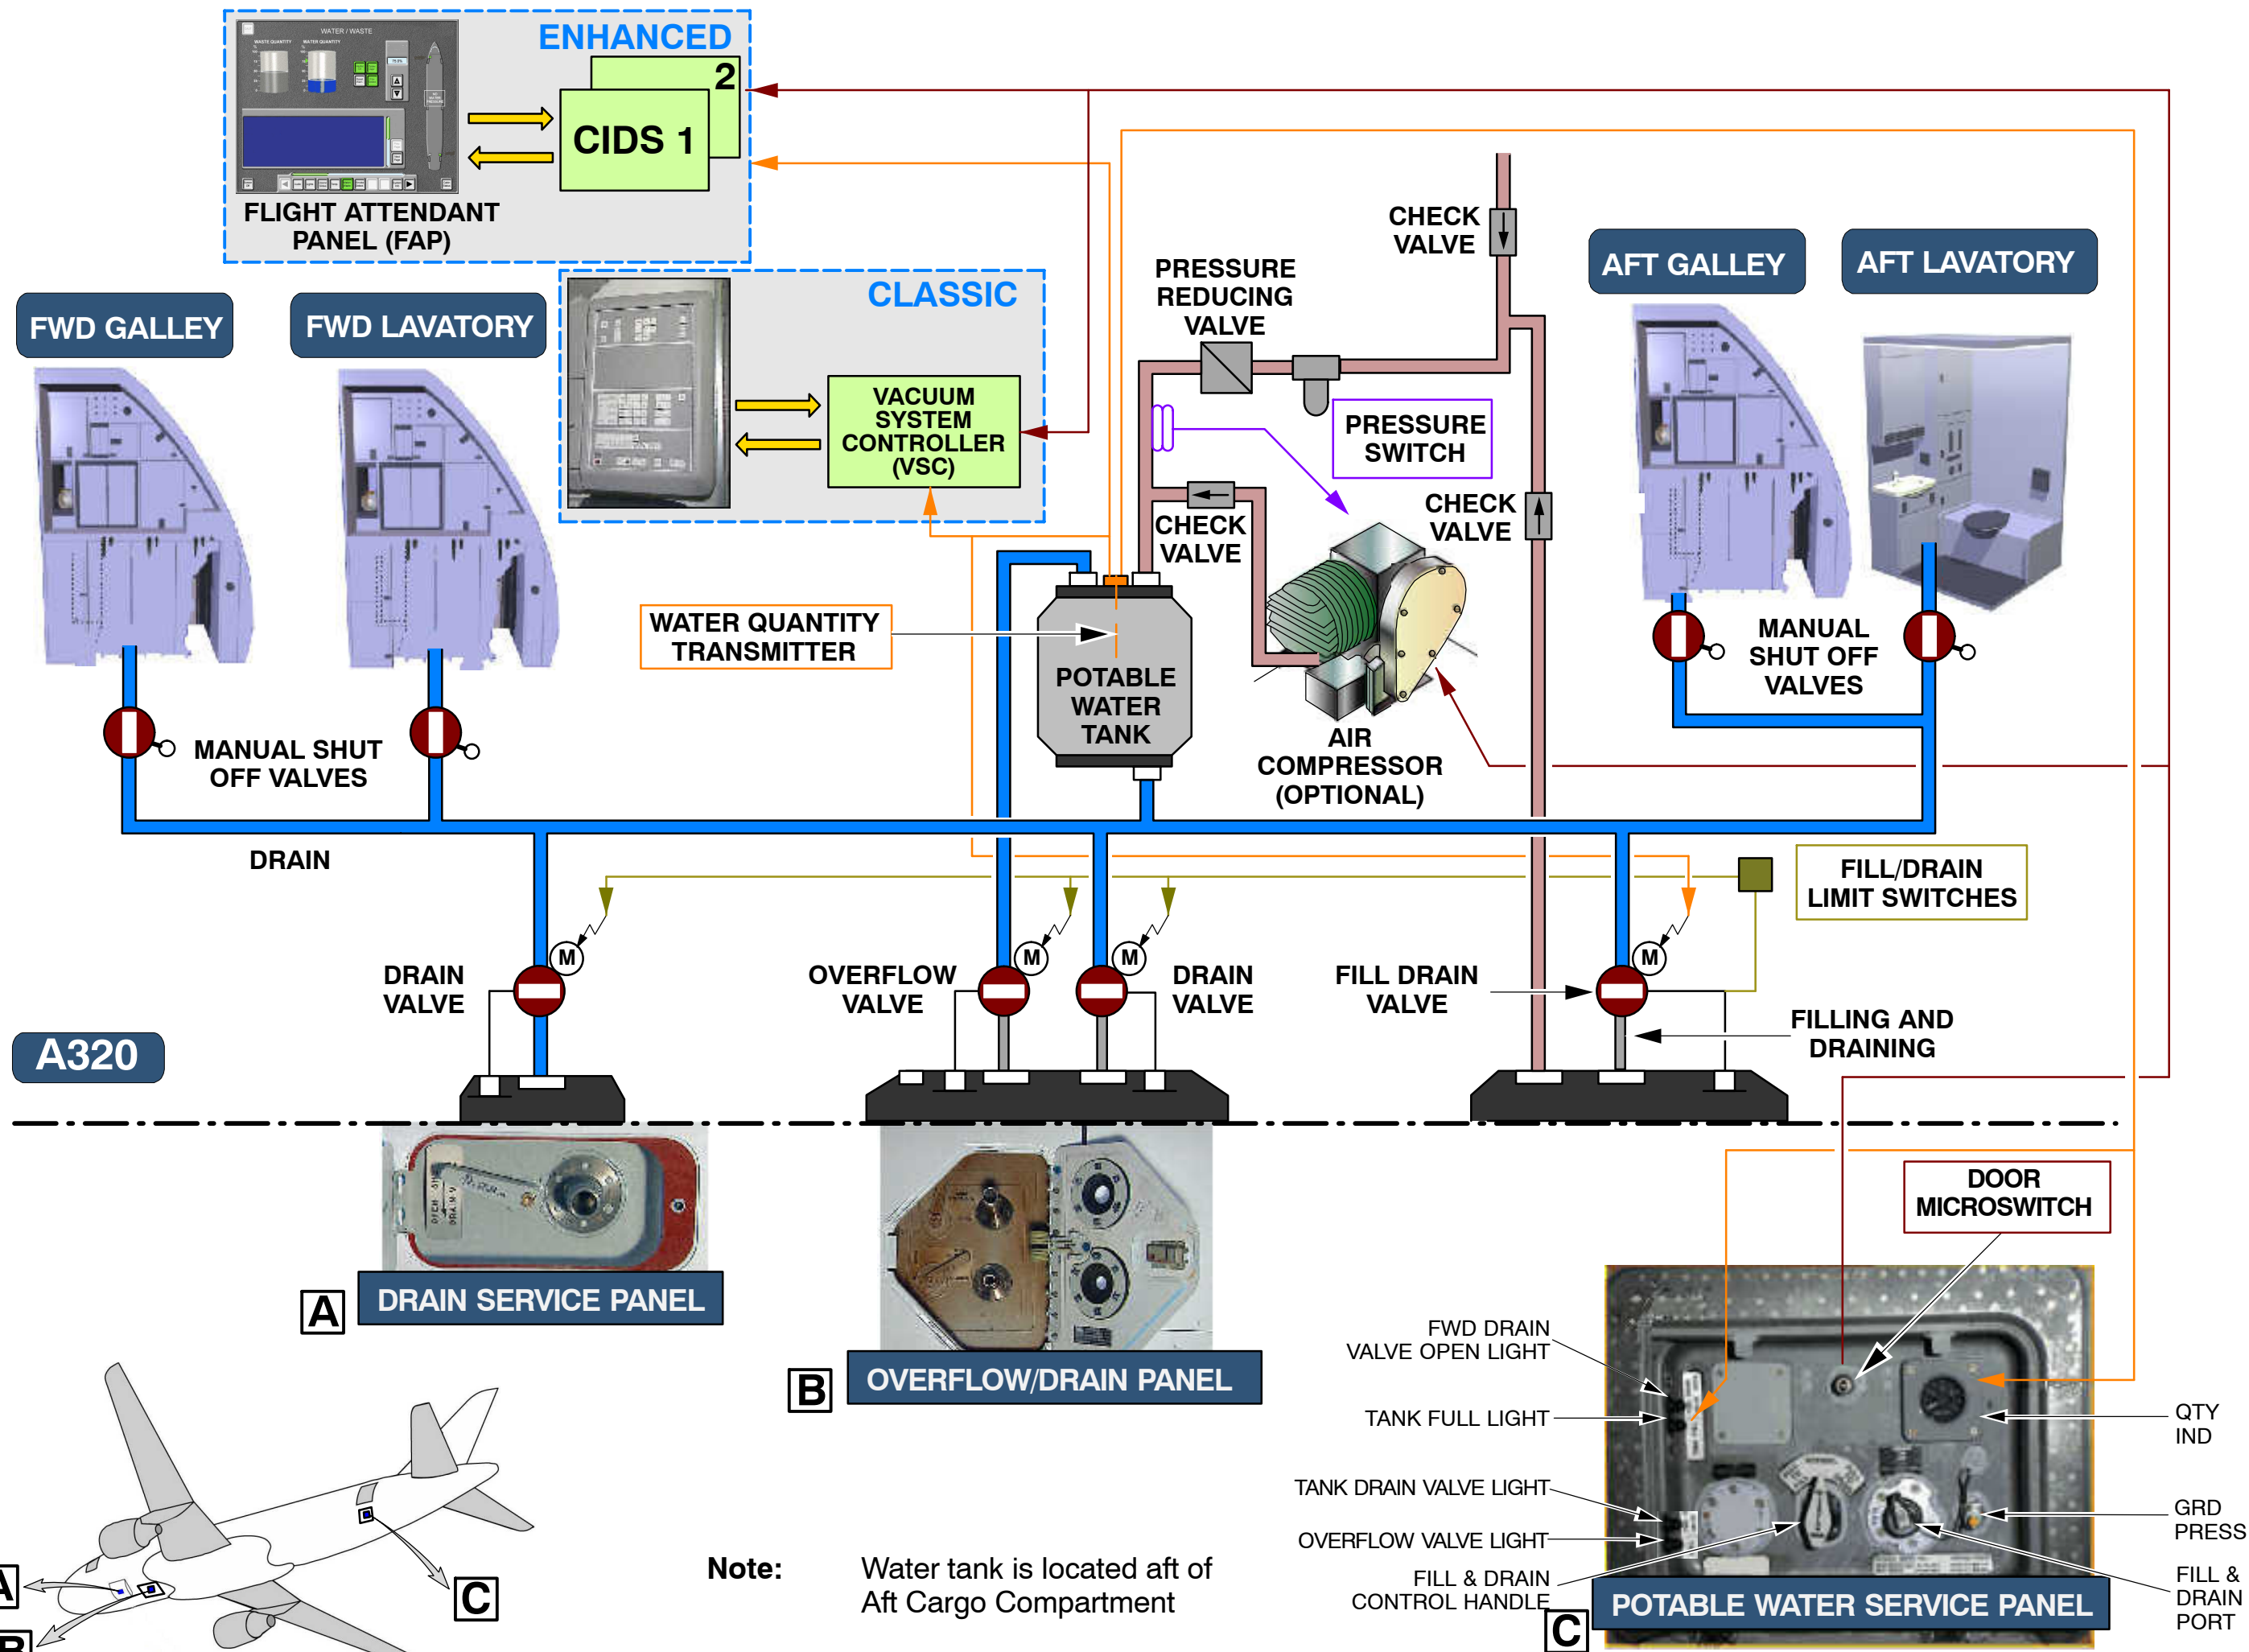

Figure 80 Potable Water System Schematic (A320)
**Reference to Figure 80 Potable Water System Schematic (A320)**